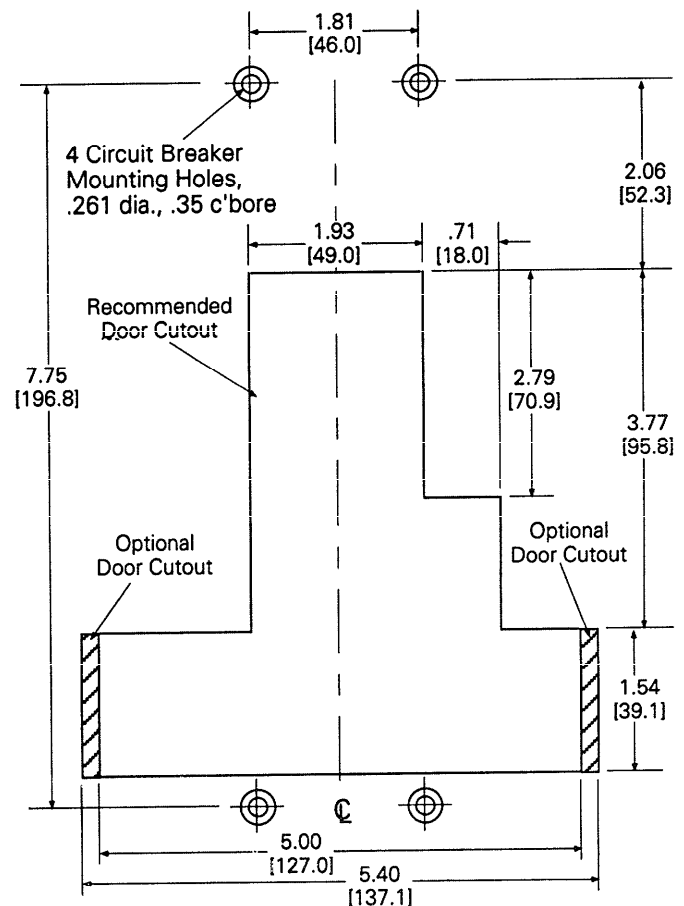

Figure 1. Mounting hole and escutcheon cutout pattern (in/[mm]).
1. Drill and tap all mounting holes and make any necessary front-panel escutcheon cutouts, as shown in Figure 1.